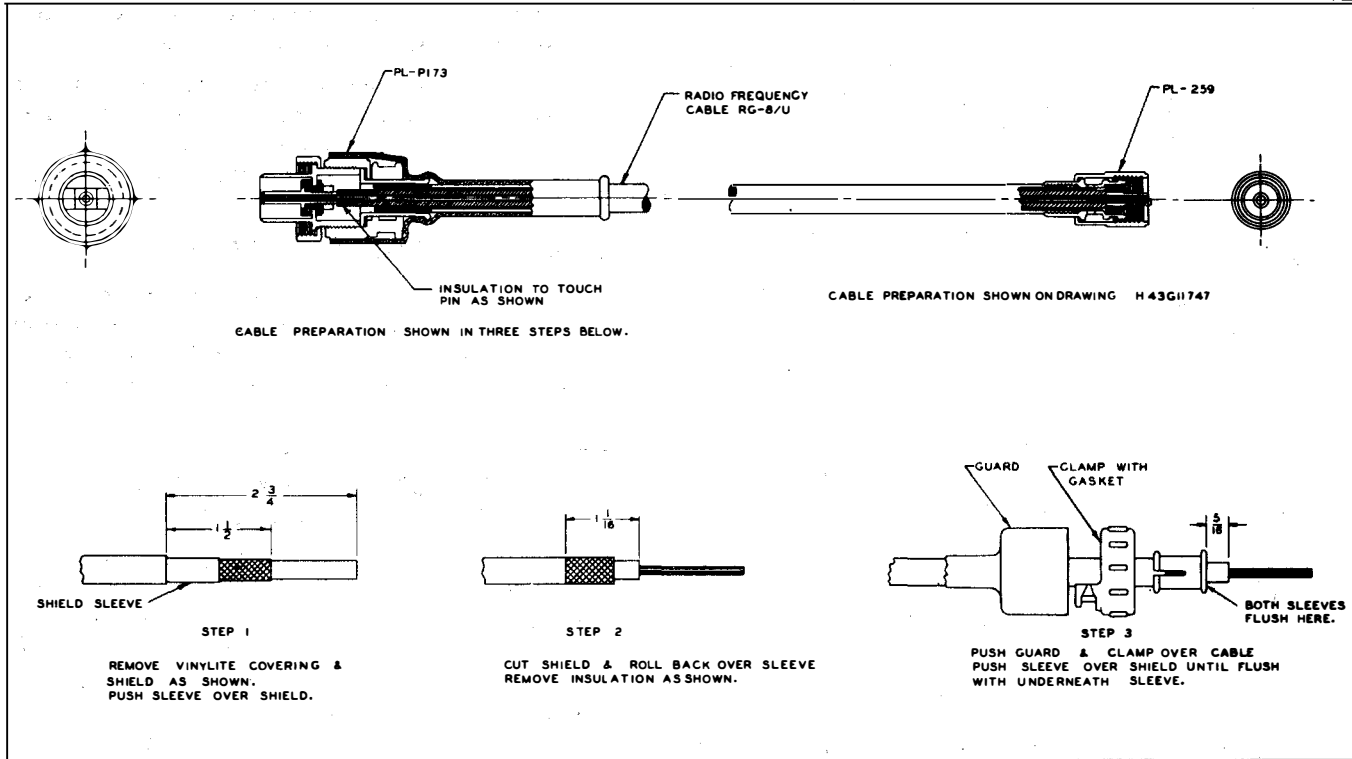
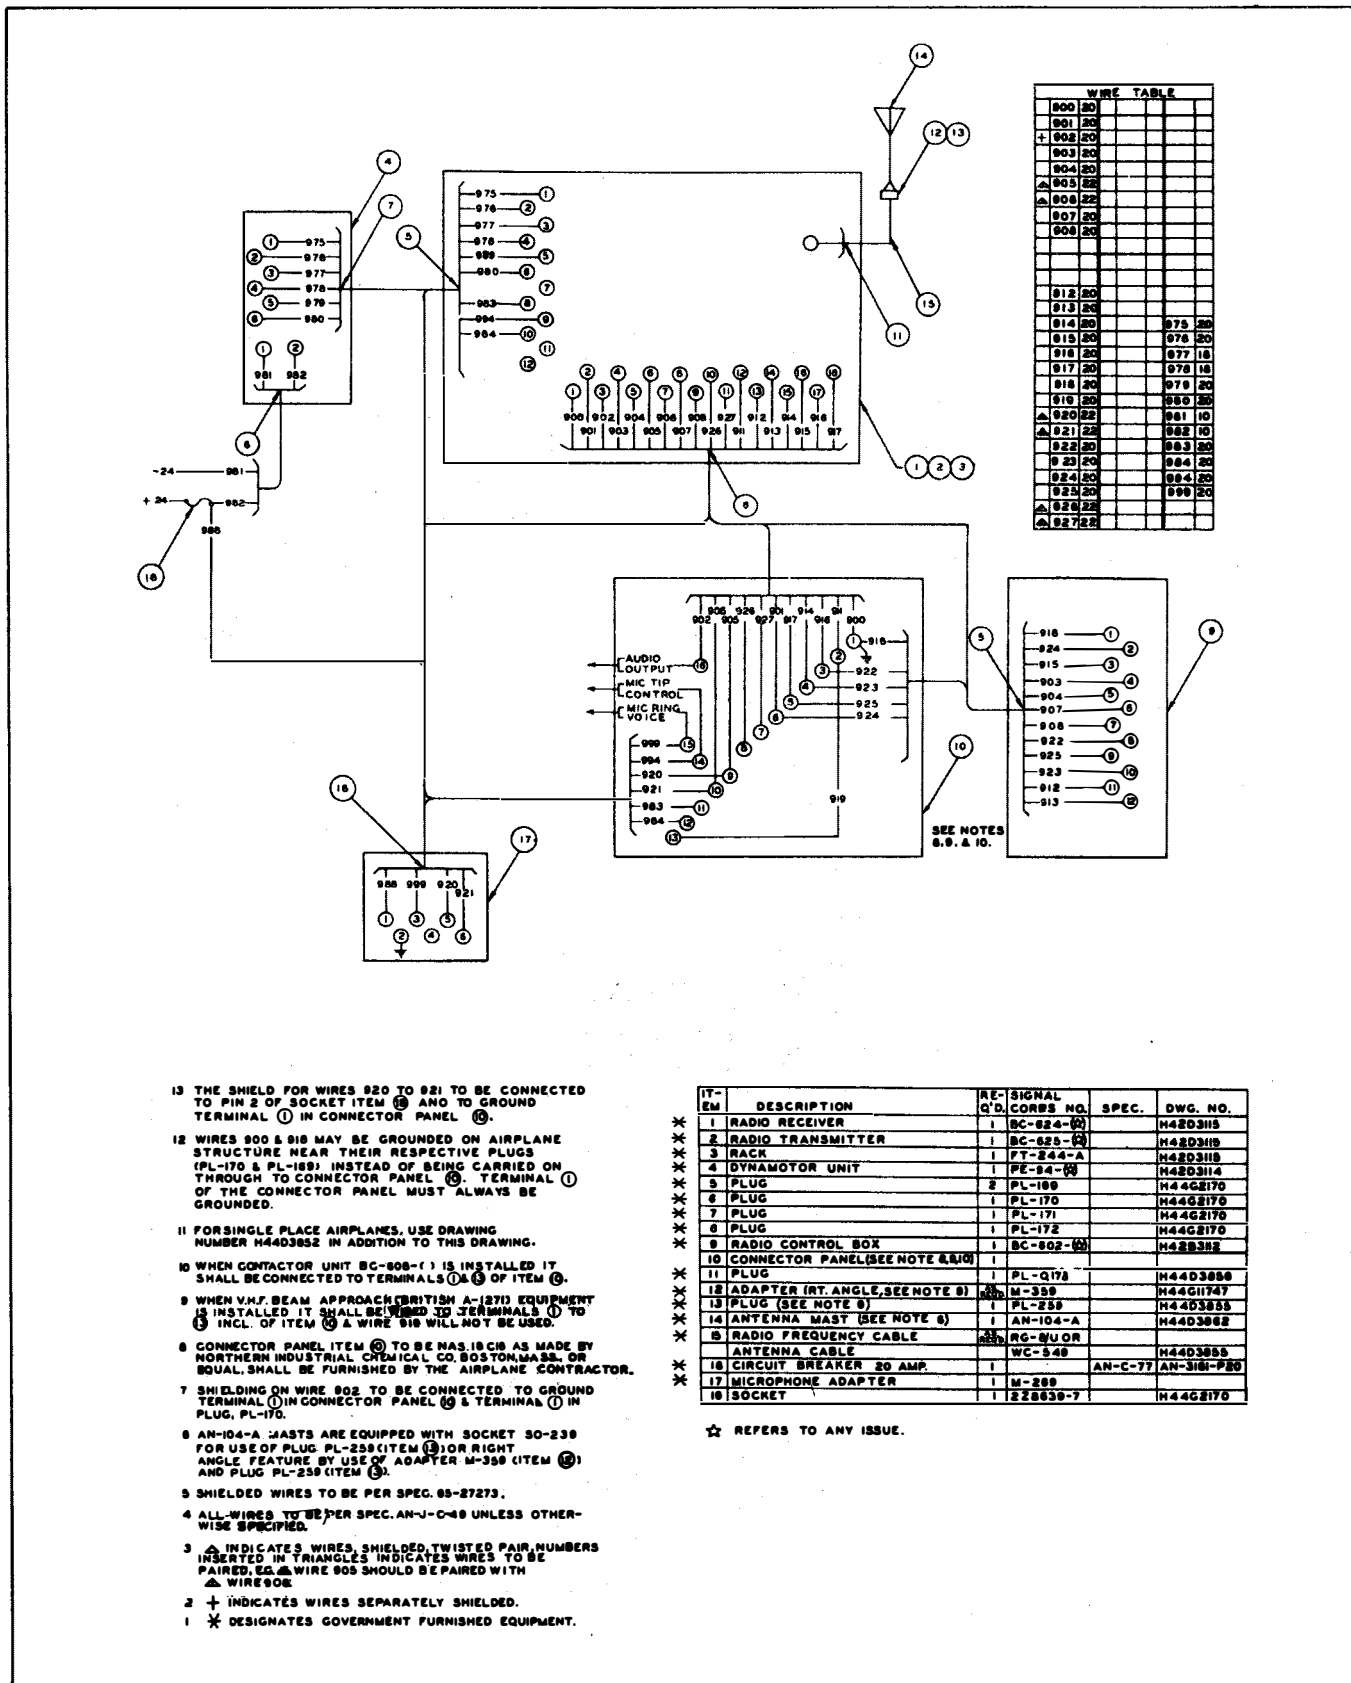

Figure 2-10. Cable Assembly With Plug PL-P173
Figure 2-12. Radio Set SCR-522-A—Typical Wiring Diagram
(a) Remove the two screws from the clamp assembly of Plug PL-P173 or PL-Q173. (See figs. 2-10 and 2-11.)
(a) Cut the required length of #10 wire. (See fig. 2-12.)
(3) PLUG PL-259.—Connect Plug PL-259 to one end of the required length of antenna cable (see fig. 2-12) as shown in figures 2-10 and 2-11.
(4) BAKELITE WIRE GUIDE TYPE PLUGS.
Connect the components of the radio set according to the instructions given in the wiring diagrams, figures 2-12 and 2-13. The following specific instructions may be helpful when making connections to the jack box.